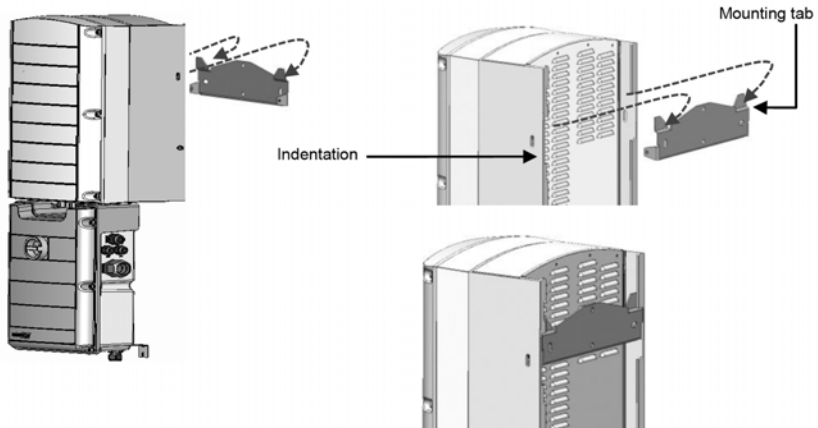

Figure 18: Hanging units
- b. Align the two indentations in the enclosure with the two triangular mounting tabs of the bracket, and lower the unit until it rests on the bracket evenly (see *Figure 18*).
- Align the two indentations in the enclosure with the two triangular mounting tabs of the bracket, and lower the unit until it rests on the bracket evenly (see *Figure 18*).